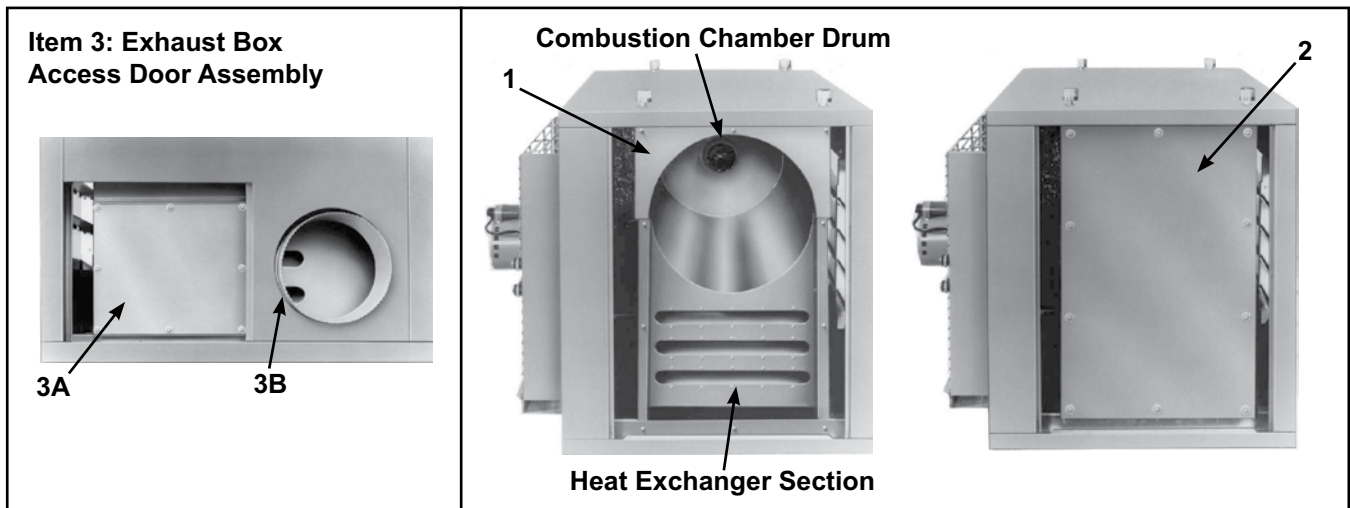

Figure 25. Heat Exchanger/Combustion Chamber and Exhaust Box Assemblies—RA and RAD Models, Unit Sizes 110, 140, and 235 (Refer to Table 17)
- Heat exchanger/combustion chamber assembly and exhaust box components for RA and RAD models—unit sizes 110, 140, and 235—are shown in Figure 25 and listed in Table 17.